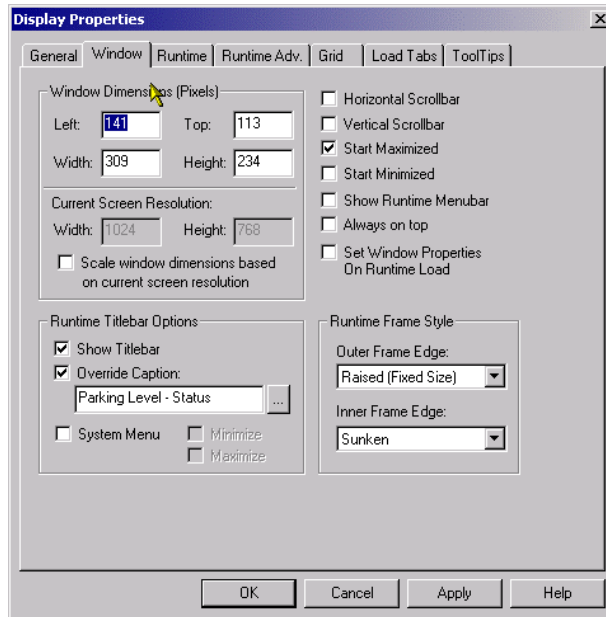

Figure 5.42
5. You should also configure the **Window** tab so that its configuration looks like **Figure 5.42**. Since this is a popup window, the scrollbars do not need to be displayed, and we do not want to show the Runtime Menubar. We will also create a caption to be displayed here: **Parking Level – Status**.